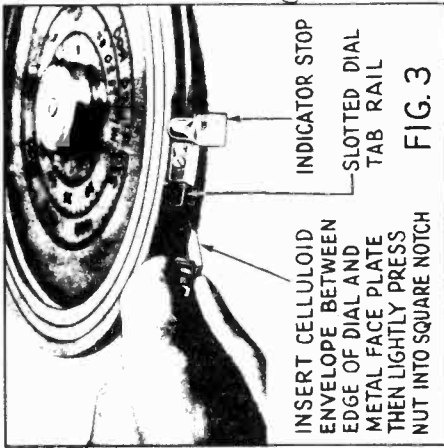

FIG. 3
- SET THE METAL TAB HOLDERS ON DIAL BY: (See Fig. 3)